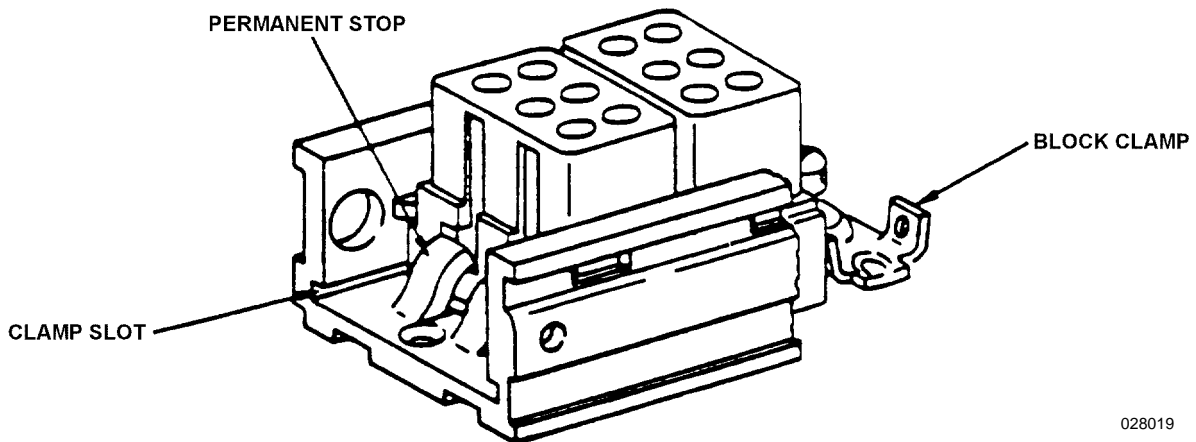

Figure 19. Feedback Terminal Junction Assembly
- d. Install additional blocks as required, sliding each block against the last previously installed block (Figures 19 and 21).
- e. Slide locking clamp against last block and tighten screw securely (Figures 19 and 21).